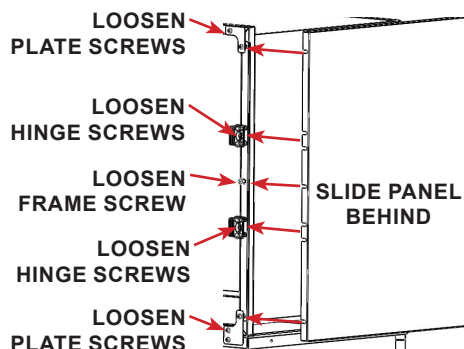

FIGURE 2.57 - End Panel Tape
STEP 6: Align the front flange slots with the screws in the cage frame, behind the trim plates and hinge/latch hardware. Lift cage to slide the panel under the front cage frame. Push the end panel against the side of the cage and push the front flange against the cage frame. See FIGURE 2.57